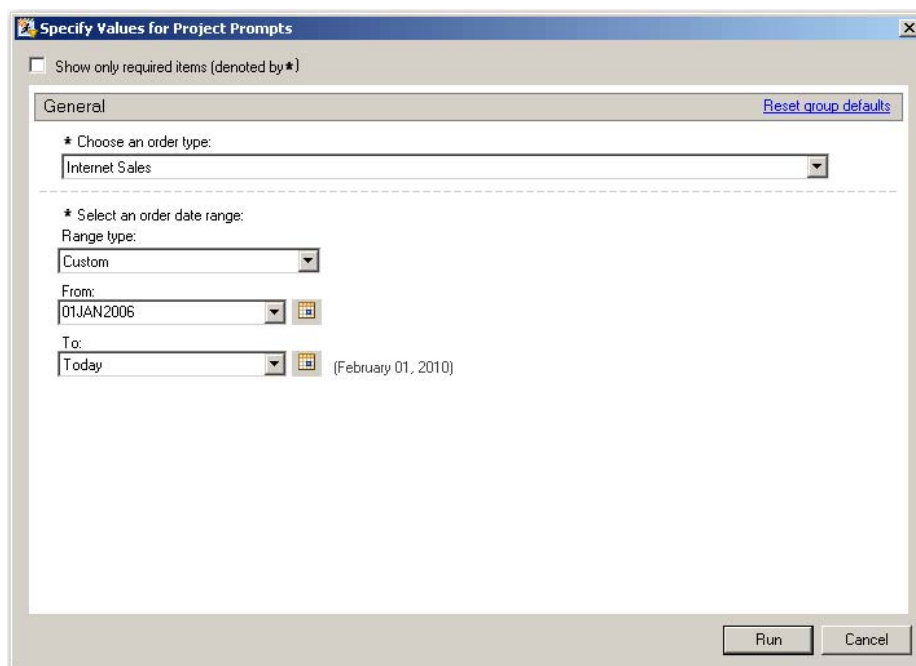

Figure 9. Prompt Window for Date Range
11. In the prompt window, select **Internet Sales** for the order type and enter **01JAN2006** in the **From:** field. Verify that **Today** is selected in the **To:** field. See Figure 9 for reference. The report will show the top 5 products by profit for Internet sales between 01JAN2006 and the current date.